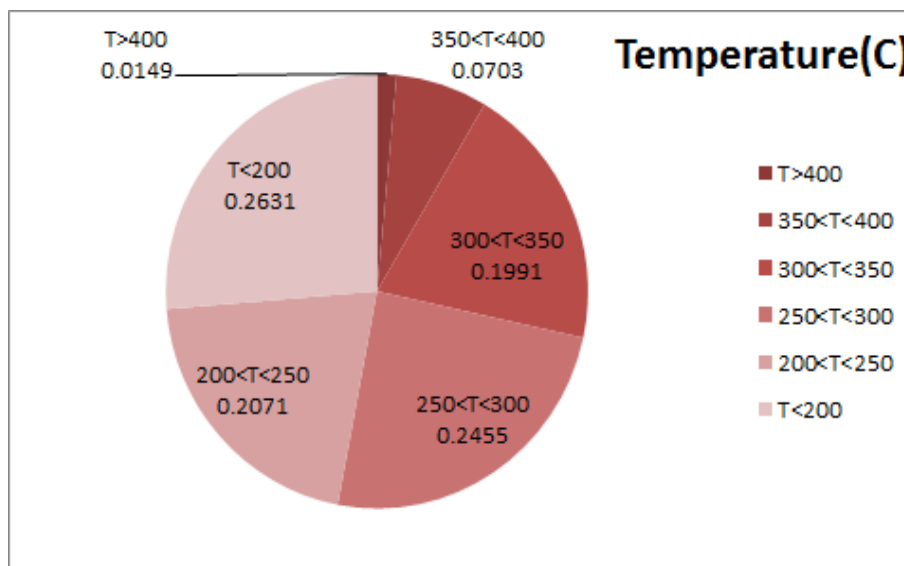

Figure 2-Temperature¹ distribution over the working hours
- Figure 2 displays flow temperature before the DPF. It can be obviously observed that only 1.5% of total working-time temperature is above 400°C.